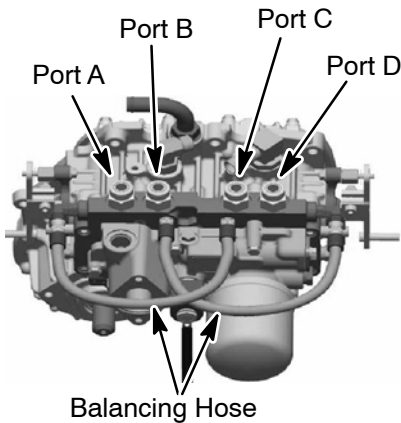

Figure 43
3. Thoroughly clean area surrounding traction circuit hoses on top of transmission (Fig. 43 or 44). Determine which piston pump circuit is to be filtered.
4. Disconnect hydraulic hose from transmission pump inlet fitting for piston pump to be filtered (Fig. 43 or 44):
6. Disconnect balancing hose from transmission fitting closest to transmission pump inlet for pump to be filtered (Fig. 43 or 44). Install steel cap on fitting and steel plug in balancing hose.